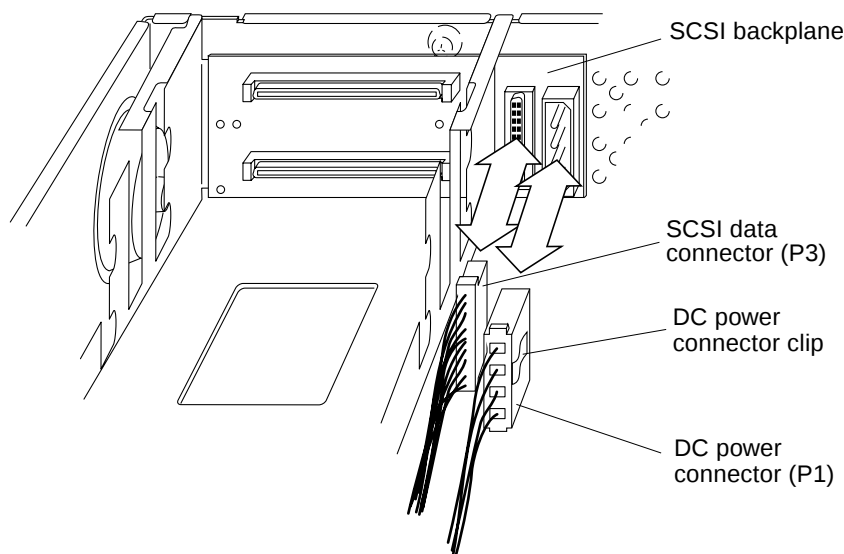

FIGURE 8-31 SCSI Backplane, SCSI Data, and DC Power Connectors
6. Press the plastic connector clip and disconnect the DC power connector from the SCSI backplane (FIGURE 8-31).
- 2. Connect the following cables to the SCSI backplane (FIGURE 8-31):**